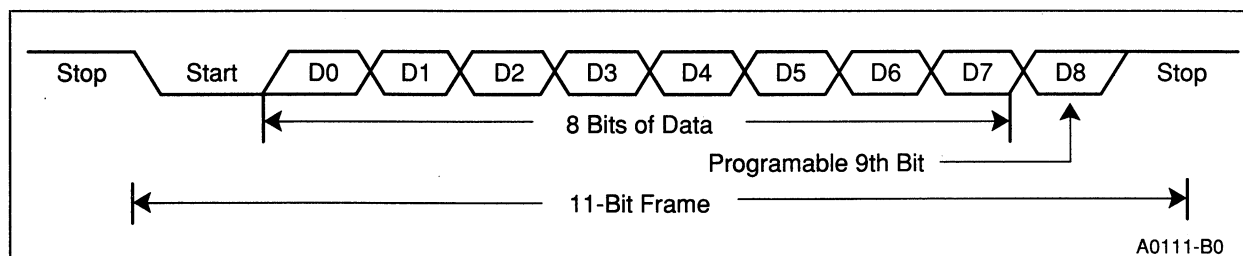

Figure 7-4. Serial Port Frames in Mode 2 and 3
Mode 2 is the asynchronous, ninth-bit recognition mode. This mode is commonly used with Mode 3 for multiprocessor communications. Figure 7-4 shows the data frame used in this mode. It consists of a start bit (0), nine data bits (LSB first), and a stop bit (1). During transmissions, setting the TB8 bit in the SP_CON register before writing to SBUF (TX) sets the ninth transmission bit. The hardware clears the TB8 bit after every transmission, so it must be set (if desired) prior to each write to SBUF (TX). During reception, the RI flag is set and an interrupt is generated **only** if the TB8 bit is set. This provides an easy way to have selective reception on a data link. (See “Multiprocessor Communications” on page 7-5.) Parity cannot be enabled in this mode.